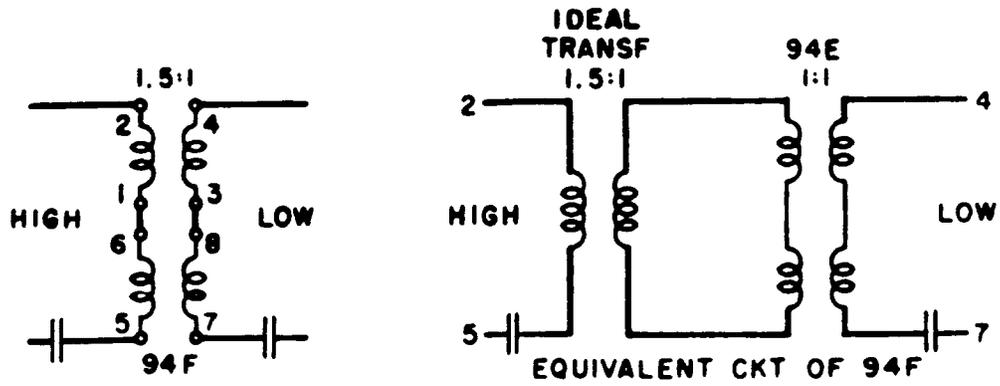

FIG. 1
1.02 The 94F repeating coil has an impedance ratio of 1.5:1 and low impedance windings identical with the 94E coil. Thus the 94F coil is equivalent to a 94E coil plus an ideal 1.5:1 ratio transformer, as shown in Fig. 1. This makes it possible to obtain the input impedance of the 94F coil from the charts for the 94E coil in Section 304-200-101. For a general discussion of the method of using the charts, refer to Section 304-200-100.
1.04 Figs. 1, 2, and 3 show, for purposes of computation, the equivalent location of capacitors normally associated with the repeating coil, and for convenience a table of reactances of 1 mf and 4 mf at various frequencies is given in 1.03 of Section 304-200-101.